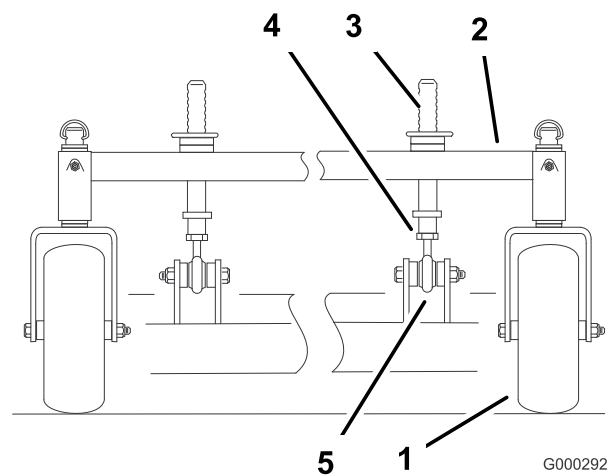

Figure 59
1. To change the front-to-rear pitch, the front height-of-cut posts can be adjusted (Figure 59).
2. To raise the front of the deck, loosen jam nut and rotate the front pin clockwise (Figure 59).
3. To lower the front of the deck, loosen jam nut and rotate the front pin counter clockwise (Figure 59).
4. Position the blades front-to-rear. Measure at C and D locations (Figure 59) from a level surface to the cutting edge of the blades.
6. Tighten the jam nuts (Figure 59).